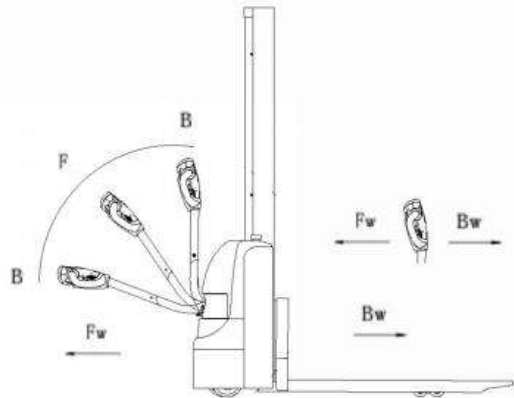

Fig. 6.e.2: Operating direction
- After starting the truck by turning the inserted key to the “ON”- position (fig. 6); and eventually by pulling the emergency button carefully), move the tiller to the operating zone ('F', fig.6.e.2).